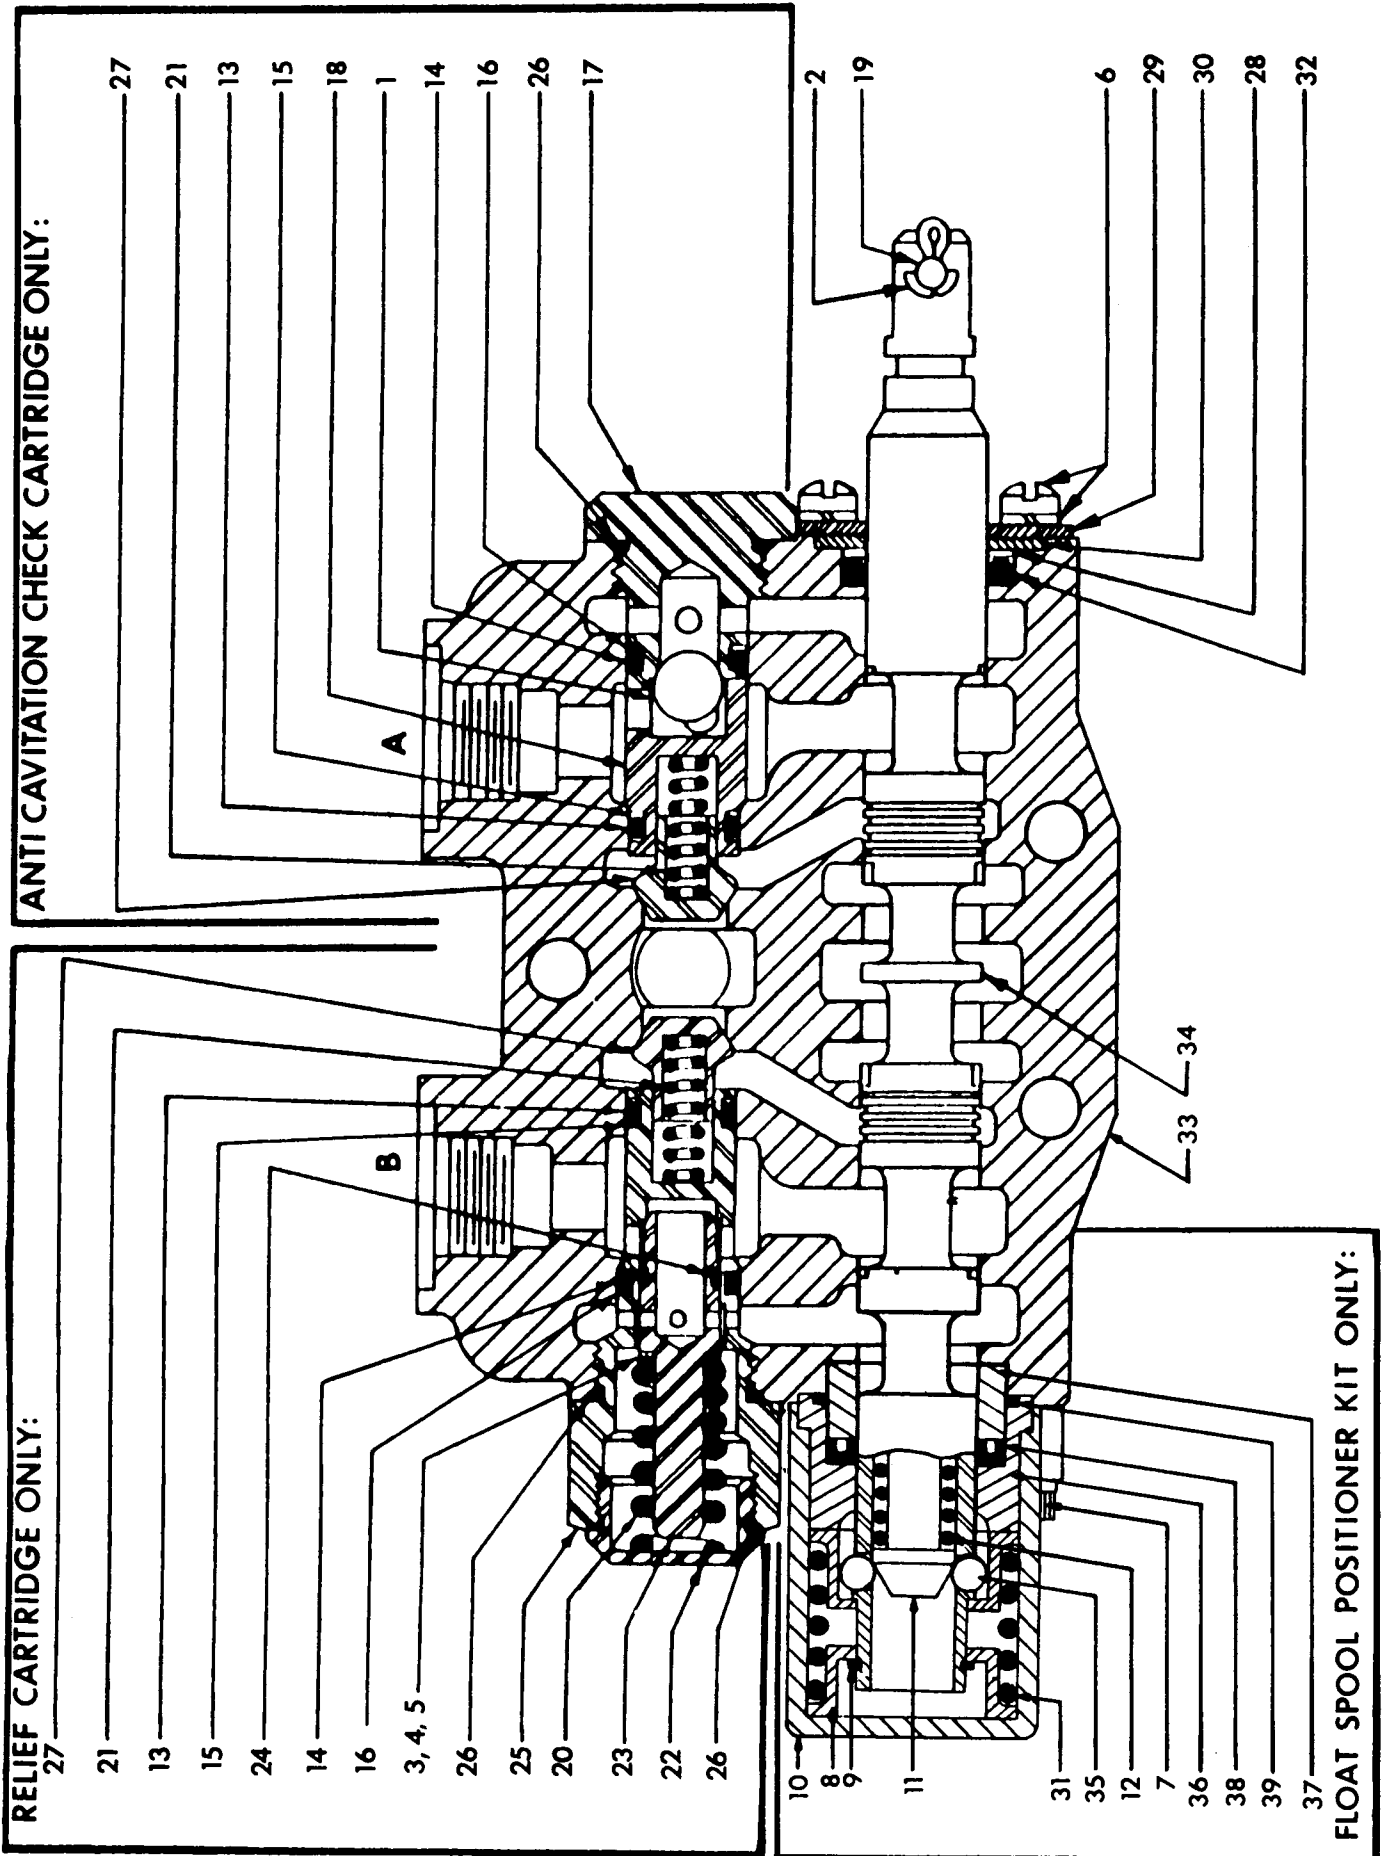

FIG 8
20. Bent spool.....replace with new spool section. See item 31 at the end and Fig 8, 9, and 10.
23. Spool not moved to full stroke.....check travel, should be 5/16 inch either way or a total of 5/8 inch. See item 31 at the end.
25. Overload relief valve in the control.....clean relief carefully but do not disturb its pressure setting as it can not be field calibrated, or replace cartridge. See item 31 at the end and Fig 8 and 9.
28. Check poppet in the control valve.....clean check poppet(s) carefully, being sure that it moves freely with good spring action and seats properly or replace. See item 31 at the end and Fig 8, 9, and 10.
29. Damaged or worn spool seals.....replace spool end seals, see item 31 at the end and Fig 8, 9, and 10.
30. Check ball in anti-cavitation check.....clean anti-cavitation valve carefully, being sure that checks move freely and seat properly, or replace cartridge. See item 31 next, and Fig 8 and 9.
PARTS LIST - FIG 8